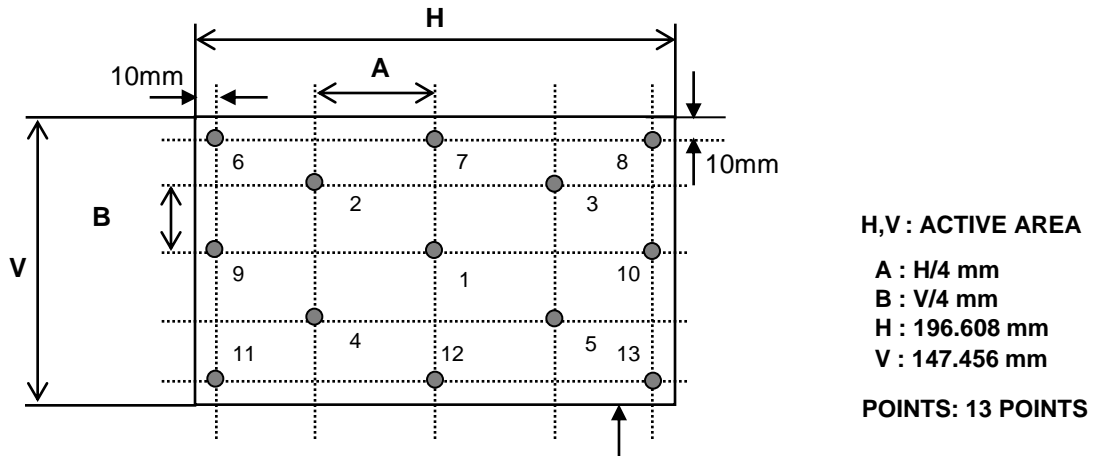

FIG. 3 Response Time
4. Response time is the time required for the display to transition from white to black (rise time,  $Tr_R$ ) and from black to white(Decay Time,  $Tr_D$ ). For additional information see FIG 3.